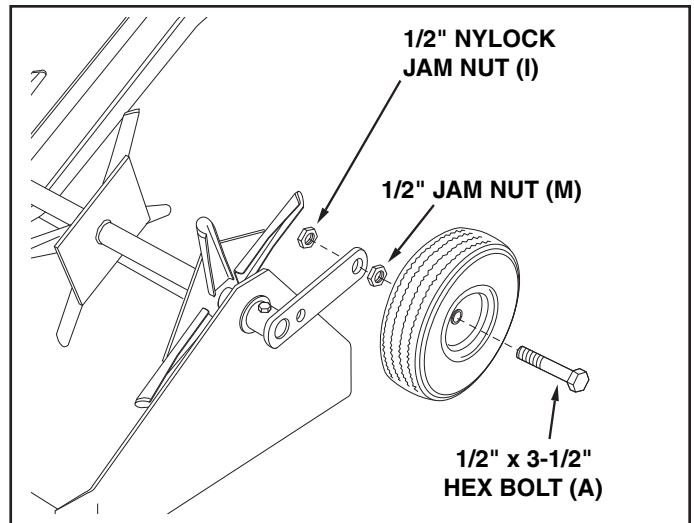

FIGURE 10 **UPSIDE DOWN VIEW**
16. Assemble a wheel to a wheel bracket as shown in figure 10. Use a 1/2" x 3-1/2" hex bolt, one 1/2" hex jam nut, and one 1/2" hex nylock jam nut. Adjust the nuts so that the wheel is held securely but will spin freely. Repeat on other side. See figure 10.